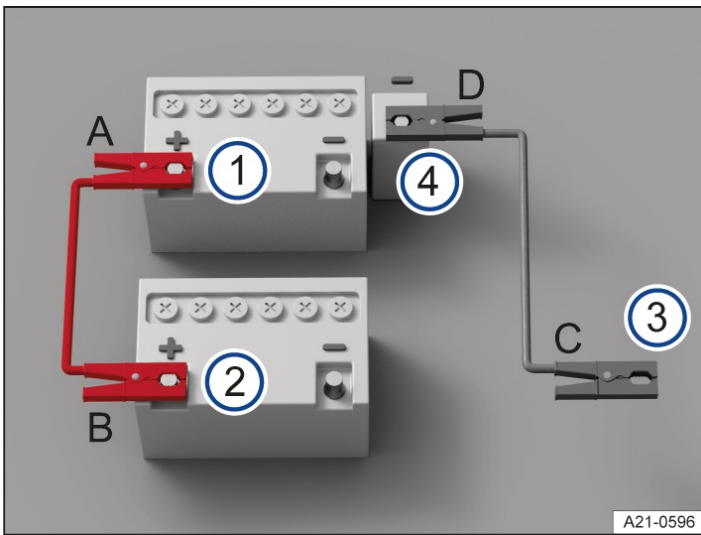

Fig. 1 Schematic diagram of how to connect the jump leads.
Connect the jump leads only in the order A – B – C – D → Fig. 1.
3. Connect one end of the red jump lead to the positive terminal(+) of the 12-volt vehicle battery with the discharged 12-volt vehicle battery → Fig. 1 ① → ⚠.
4. Connect the other end of the red jump lead to the positive battery terminal(+) of the vehicle providing assistance → Fig. 1 ②.
5. Connect one end of the black jump lead preferably to an earth jump-start connection point(-) on the vehicle with the 12-volt vehicle battery providing assistance → Fig. 1 ③.
Or: if no earth jump-start connection point (-) is present, connect the end of the black jump lead to a solid metal part that is securely bolted onto the cylinder block or to the cylinder block itself on the vehicle with the 12-volt vehicle battery providing assistance → Fig. 1 ③.
6. Connect the other end of the black jump lead to the earth jump-start connection point(-) on the vehicle with the discharged 12-volt vehicle battery → Fig. 1 ④ → ⚠.